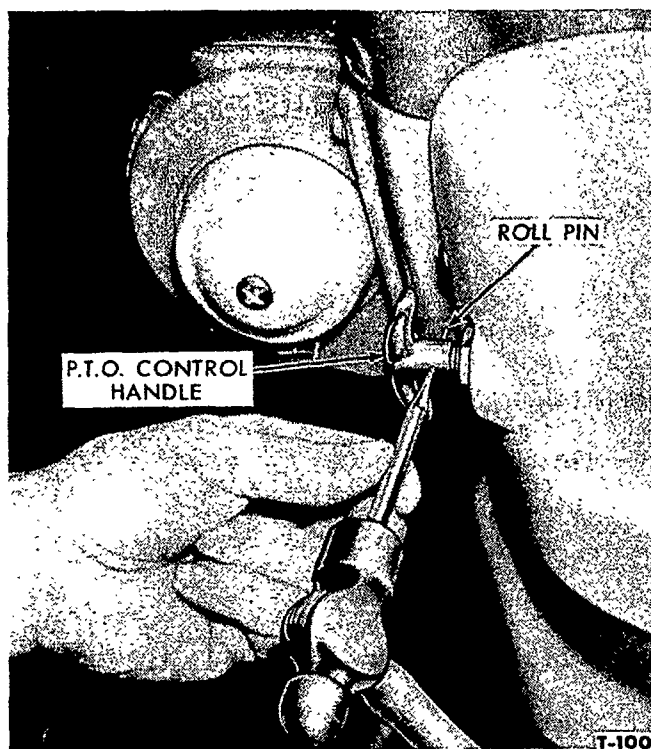

Figure 1—Removing P.T.O. Control Handle
3. On tractors equipped with Select-O-Speed transmission, carefully drive the roll pin out of the P.T.O. control handle as shown in Figure 1. Remove the handle, nut and washer that attaches the control cable housing to the right rear side of the hood.
3. On a tractor equipped with Select-O-Speed transmission, carefully drive the roll pin out of the P.T.O. control handle as shown in Figure 1. Remove the handle, nut and washer that attaches the control cable housing to the right rear side of the hood.
3. On tractors equipped with a Select-O-Speed transmission, carefully drive the roll pin out of the P.T.O. control handle as shown in Figure 1. Remove the handle, nut and washer that attaches the control cable housing to the right rear side of the hood.
3. On a tractor equipped with Select-O-Speed transmission, carefully drive the roll pin out of the P.T.O. control handle as shown in Figure 1. Remove the handle, nut and washer that attach the control cable housing to the right rear side of the hood.